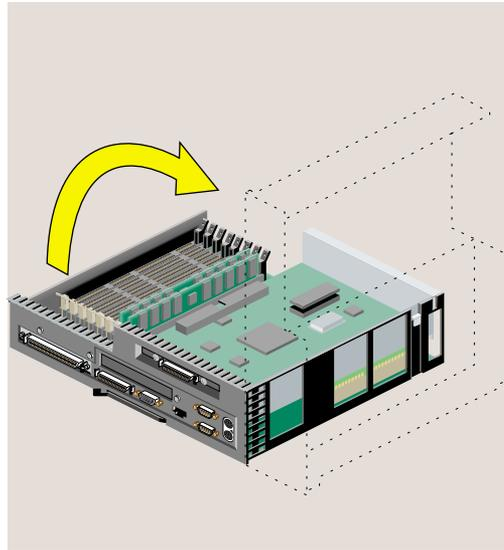

Figure 2-50 Returning the System Module to its Upright Position
1. Return the system module to its upright position (Figure 2-50).